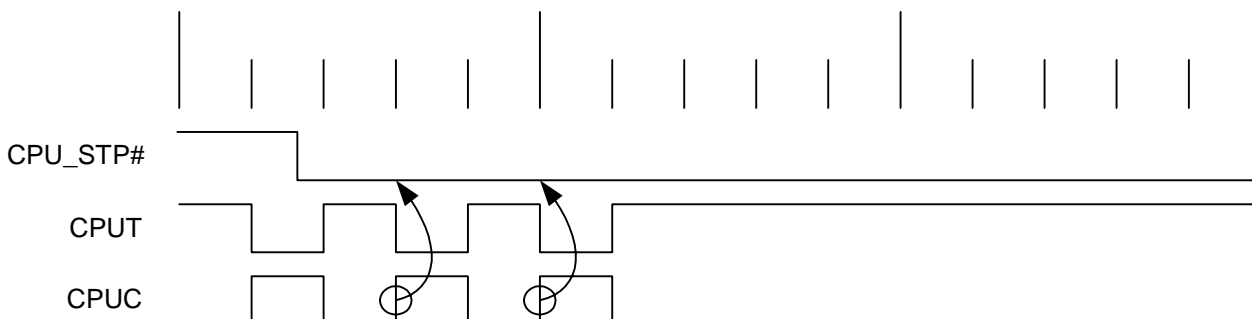

**Figure 6. Clock Timing Relationships**
16. See figure 6 for 0.7V loading specification.